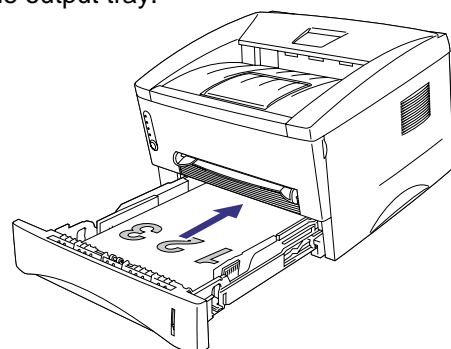

Fig. 2-26
- (1) Select the required manual duplex printing mode from the driver.
- (2) The printer will automatically print all the even numbered pages on one side of the paper first.
- (3) Remove the printed even numbered pages from the output tray.
- (4) Re-insert them into the paper cassette, loading the paper with the side to be printed (blank side) face down, and the top edge toward you. Follow the instructions on the computer screen. (Fig. 2-26)
- (5) The printer will now automatically print all the odd pages on the reverse side of the paper.